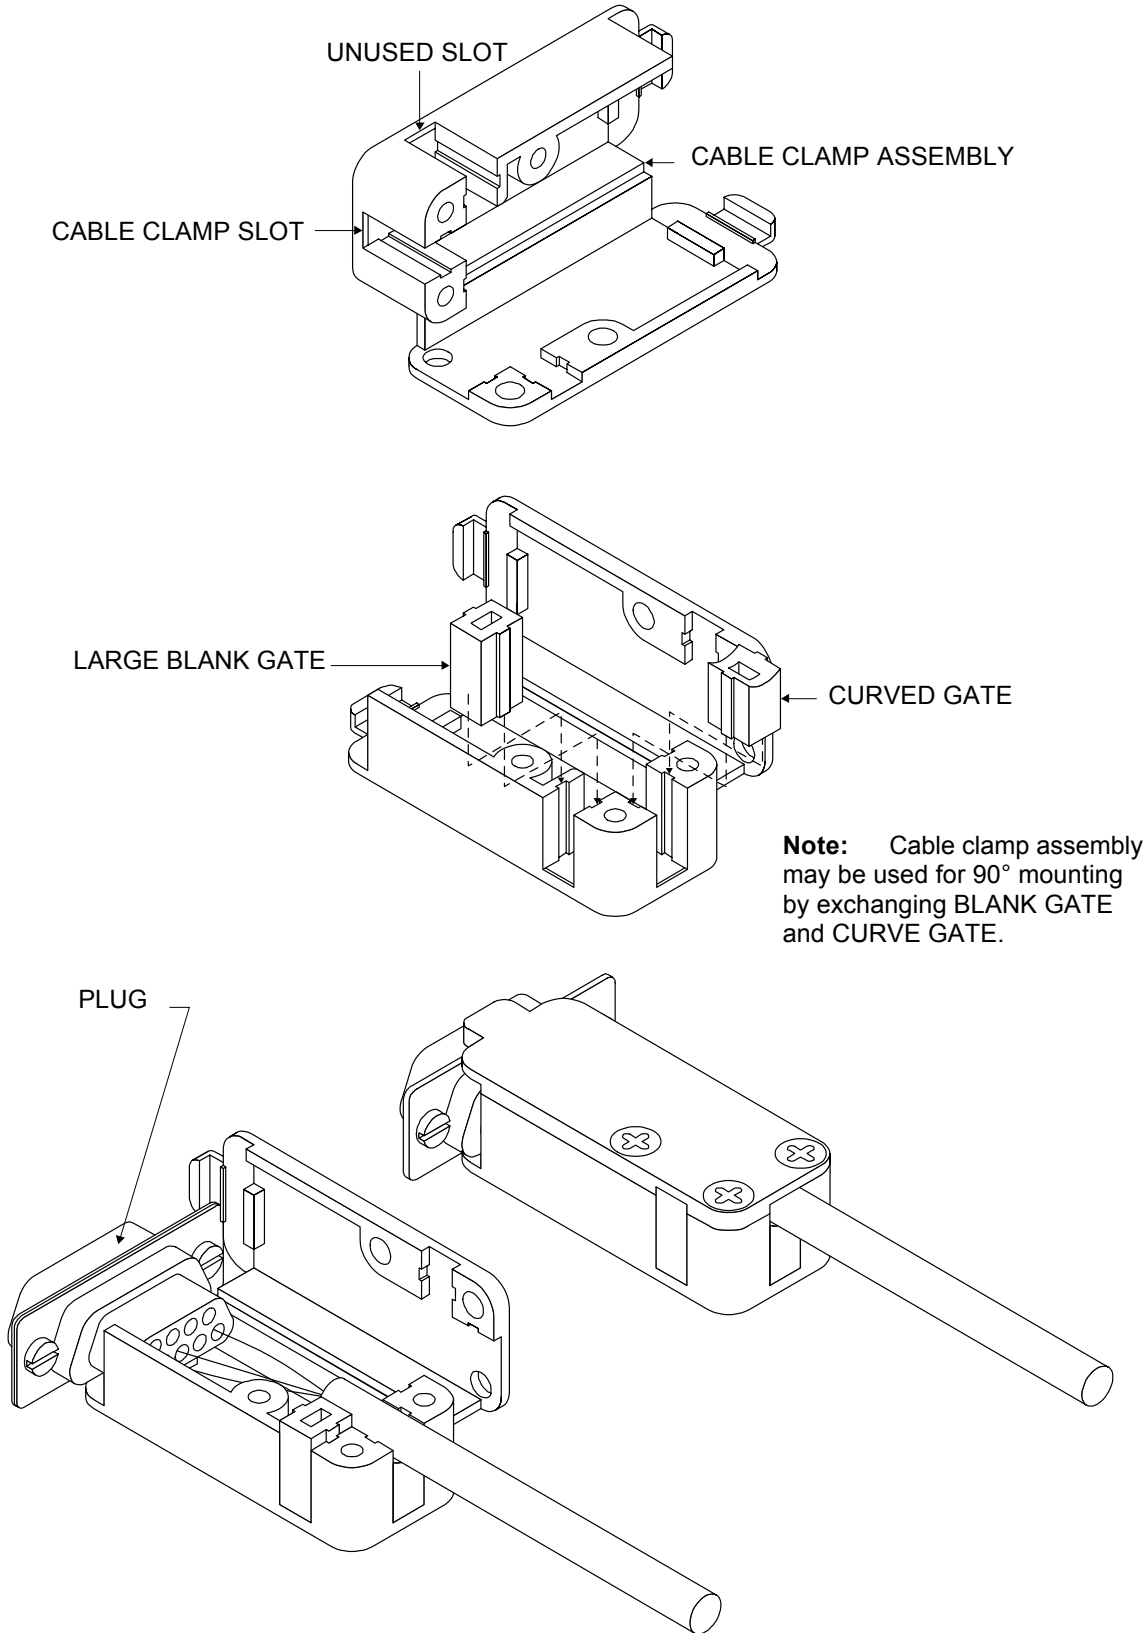

Figure 2-9
- 2) Insert the curved gate into the cable clamp slot as shown in Figure 2-9. Insert the large blank gate into the unused slot.